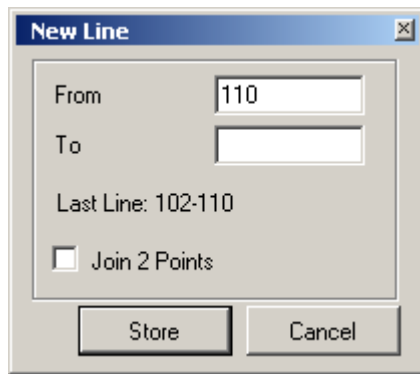

Figure 7 - Line entry
- Snap to line 108 – 110. Confirm that the distance is 15.449 which is very close to the 15.45 shown on the survey plan. See figure 7 below.